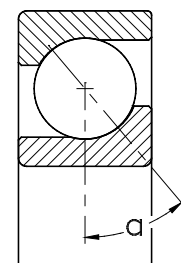

Fig. 2.2
**Single row angular contact ball bearings** (fig. 2.2) support axial loads applied at a certain contact angle to their axis in one direction only. These bearing types are not separable; therefore, they are mounted in bearing pairs or a combination of bearing sets.